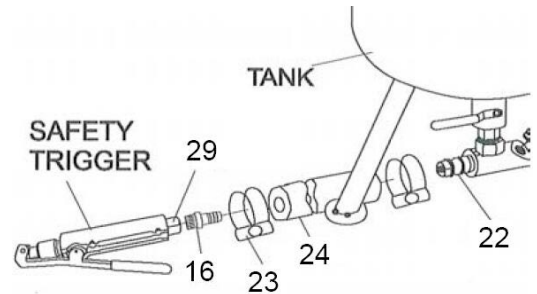

Figure 1
1. Follow the diagram at right to install the various components (Figure 1).
2. Slide the two hose clamps (23) over each end of the Abrasive Hose (24) surface.
3. Press one end of the hose, over the nipple on the Abrasive outlet pipe (22). And the other end over the Abrasive Safety Trigger Hose Adapter (16).